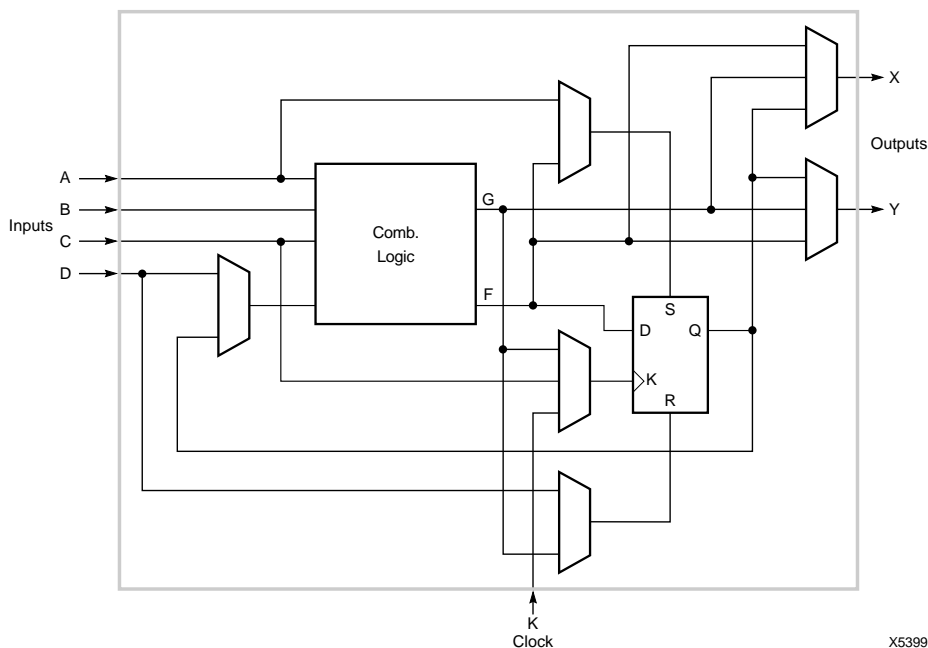

Figure 4. Configurable Logic Block
Each logic block has a combinatorial logic section, a storage element, and an internal routing and control section. Each CLB has four general-purpose inputs: A, B, C and D; and a special clock input (K), which may be driven from the interconnect adjacent to the block. Each CLB also has two outputs, X and Y, which may drive interconnect networks. Figure 4 shows the resources of a Configurable Logic Block.
The two block outputs, X and Y, can be driven by either the combinatorial functions, F or G, or the storage element output Q (Figure 4). Selection of the outputs is completely interchangeable and may be made to optimize routing efficiencies of the networks interconnecting the logic blocks and I/O blocks.